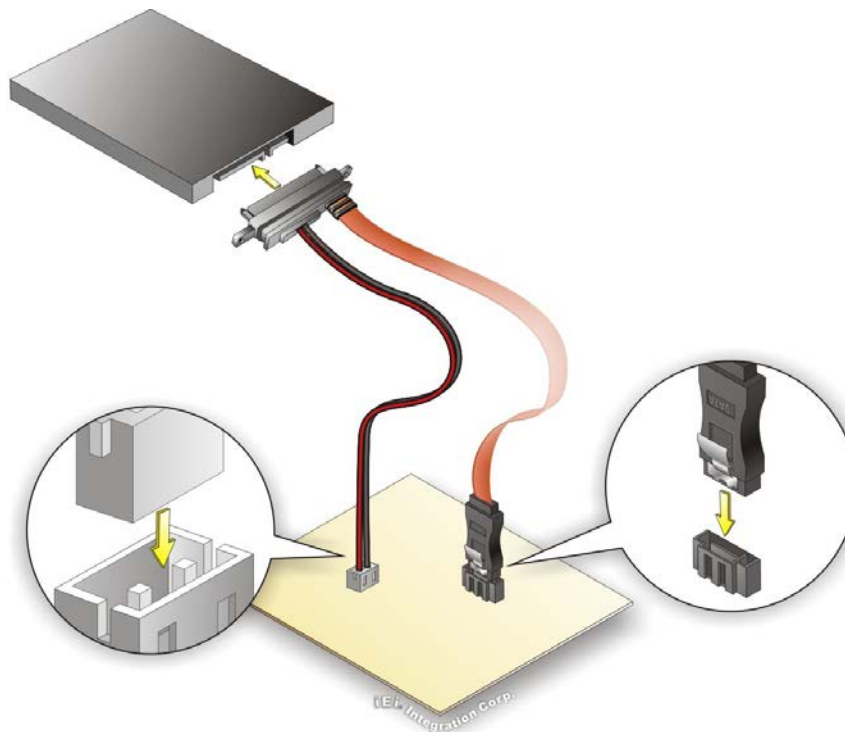

Figure 4-4: SATA Drive Cable Connection
Step 2: **Insert the cable connector.** Insert the cable connector into the on-board SATA drive connector and the SATA power connector. See **Figure 4-4**.
Step 3: **Connect the cable to the SATA disk.** Connect the connector on the other end of the cable to the connector at the back of the SATA drive. See **Figure 4-4**.
Step 2: Insert the power cables. Insert the power cables into the power connector. See Figure 4-4.